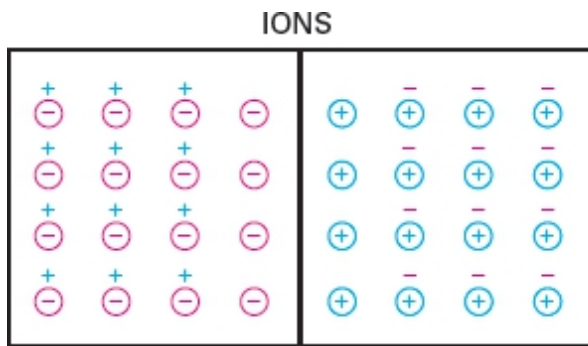

Figure-4 Creation of ions at junction
- After the migrating electron falls into a hole on the p side, it makes a negative ion out of the trivalent atom that captures it. Figure-4 shows these ions on each side of the junction.
- In Figure-4, the electric field between the ions is equivalent to a difference of potential called the barrier potential.